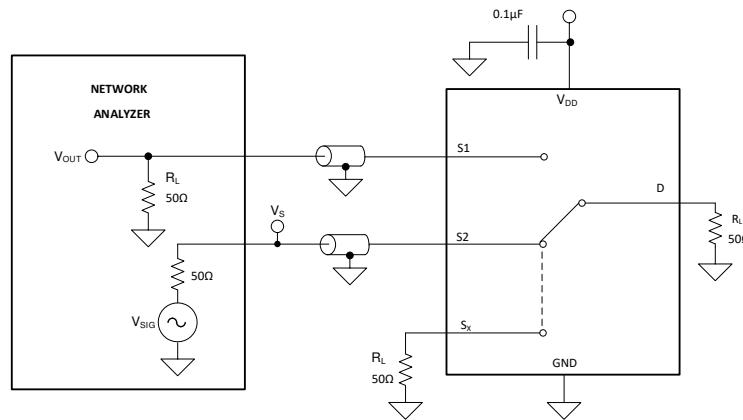

**Figure 7-8. Off Isolation Measurement Setup**
Off isolation is defined as the ratio of the signal at the drain pin (D) of the device when a signal is applied to the source pin (Sx) of an off-channel. Figure 7-8 shows the setup used to measure, and the equation to compute off isolation.